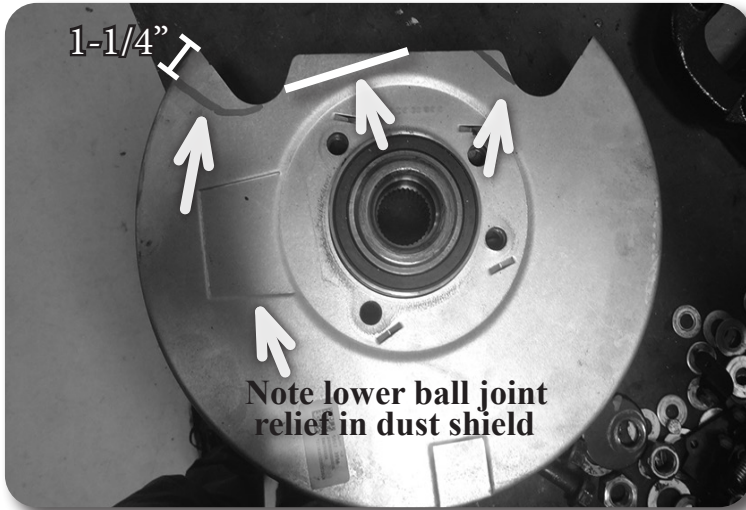

Figure 34A DRIVER SIDE SHOWN
50. The brake dust shield needs to be trimmed on both the driver and passenger sides. Measure in from the lower vertical edge 1-1/4" and make a cut as shown in Figure 34A. The upper edge will need to be cut at a 45 degree angle as shown in Figure 34A on the upper right side. Figure 34 A & B show the cut to clear the brake caliper. The cuts will be mirror images on the passenger side as to what is shown in the pictures.